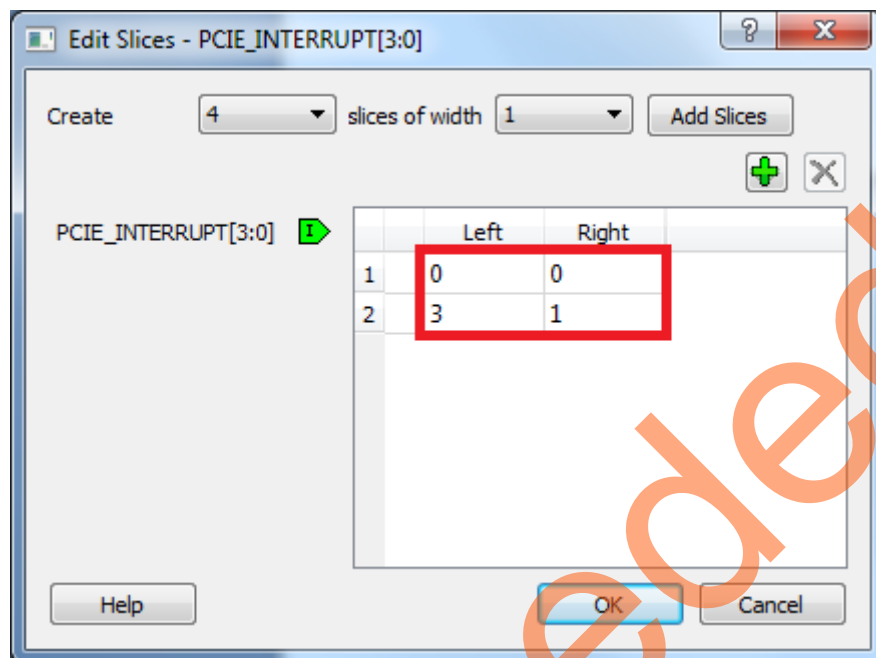

Figure 31 • Edit Slices
30. Click the + sign and create a slice with the Left index 0 and the Right index 0. Click + again to create a second slice with Left index 3 and Right index 1 as shown in Figure 31.